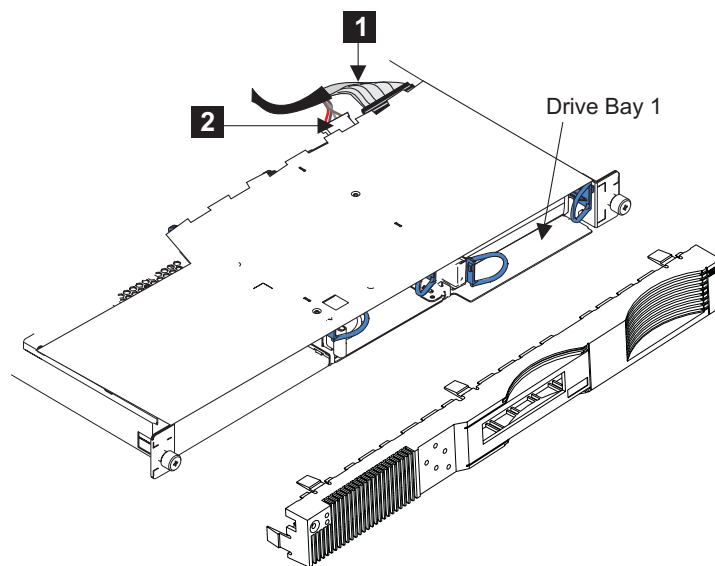

Figure 169. SAN Volume Controller 2145-4F2 disk drive
1. Connect the SCSI signal connector **1** and the power connector **2** to the back of the disk drive, as shown in Figure 169, and then replace the cable.